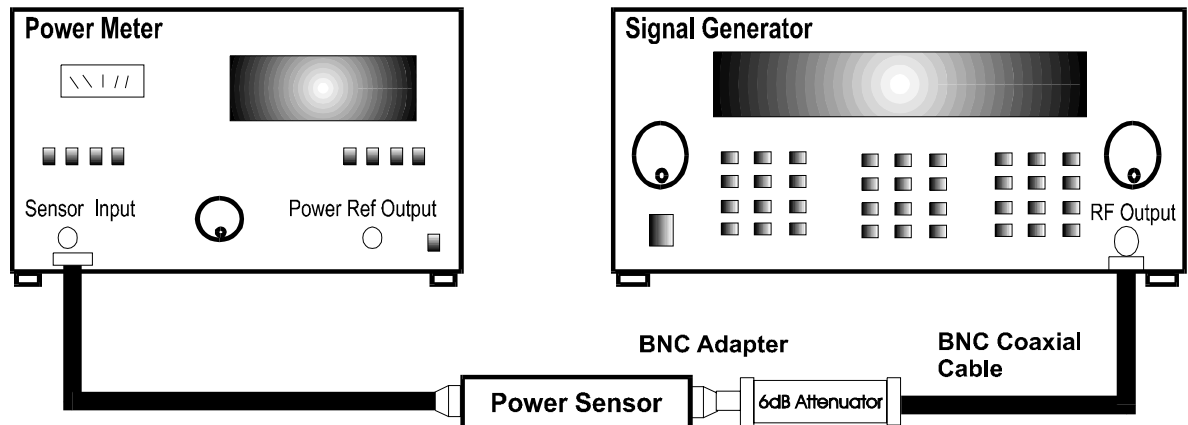

Figure 5-8 : Power Meter Equipment Setup
- Connect the test equipment as shown in Figure 5-8.